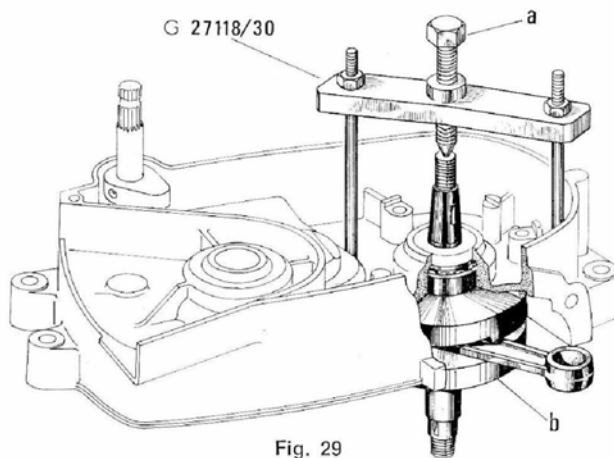

Fig. 29
**Fig. 29 - Crankshaft:** (50 RS and Enduro) fit the tool G. 27118/30 by securing the concerning tie rods on two holes of the crankcase, then act on the central screw « a » of the tool until the crankshaft « b » is completely removed from its housing.